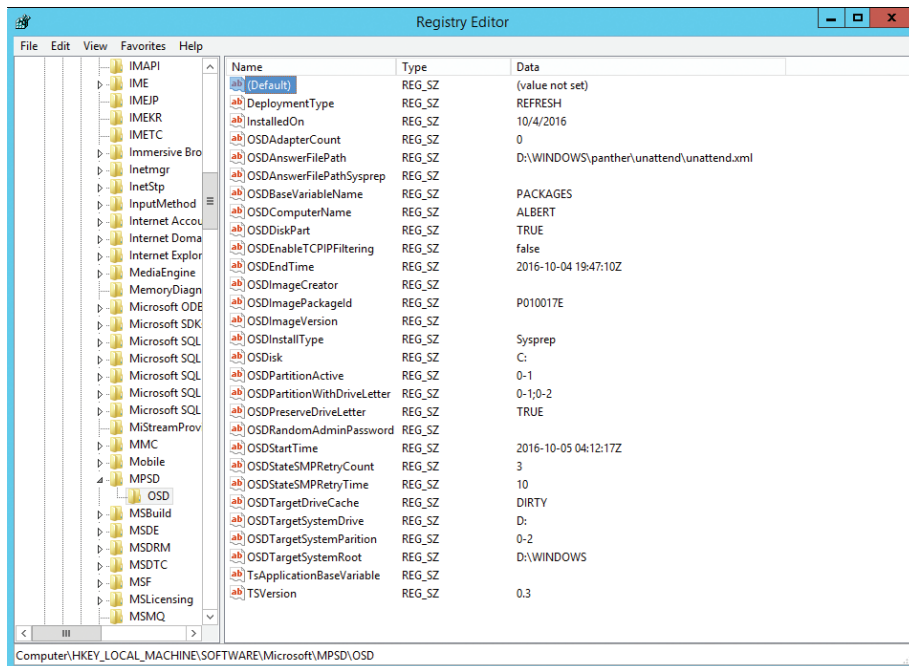

FIGURE E.1 Registry Editor showing the OSD Registry key.
1. Download RegKeyToMOF from <http://mnsucg.org/images/Sherry/RegKeyToMOFv33a.zip>. Start the utility on a test machine containing the Registry key and its necessary values. The key in this example is located at HKEY_LOCAL_MACHINE\SOFTWARE\Microsoft\MPSD\OSD, as shown in Figure E.1.